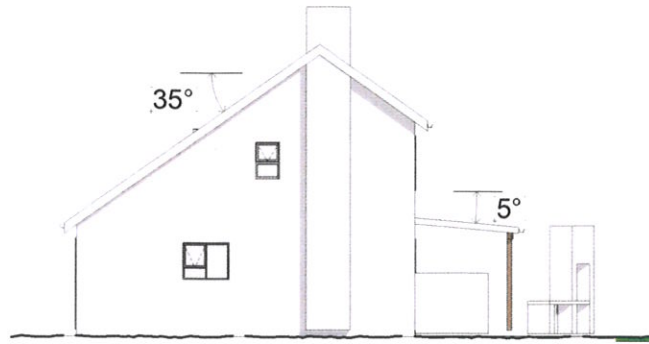
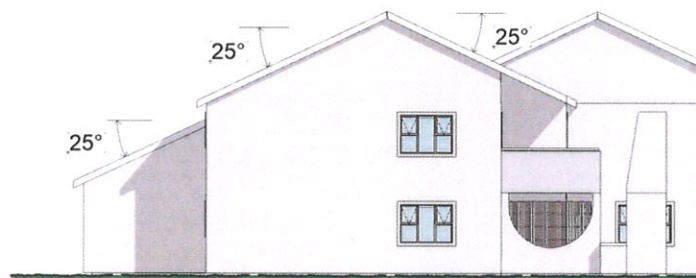

Fig 4 Typical Type D Units
Fig 5 Typical Type A Lake Front Facing Units
- (i) 35 Degree angled roofs or 25 Degree angled roofs will be allowed. (Refer Fig 4 + Fig 5)